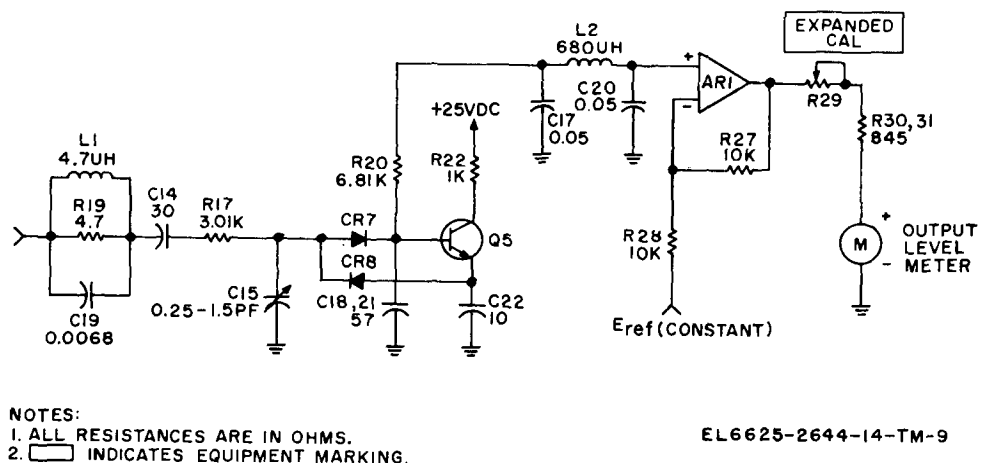

Figure 5-4. Expanded meter circuit, simplified schematic diagram.
5-6. Expanded Meter Circuit Analysis (figs. 5-4 and FO-2)
d. The incoming ac signal is coupled through a peaking network, L1, R19, and C19 (fig. 5-4). This network is only effective at the higher frequencies. CR7 rectifies this signal charging C18 and C21 to some average value. The voltage from C18 and C21 is applied to the noninverting (+) input of the differential amplifier, AR1. The inverting (-) input is driven by the set reference voltage (E ref). The two signals are compared, and any difference between the two is amplified by a factor determined by the ratio of resistors R27 and R28.